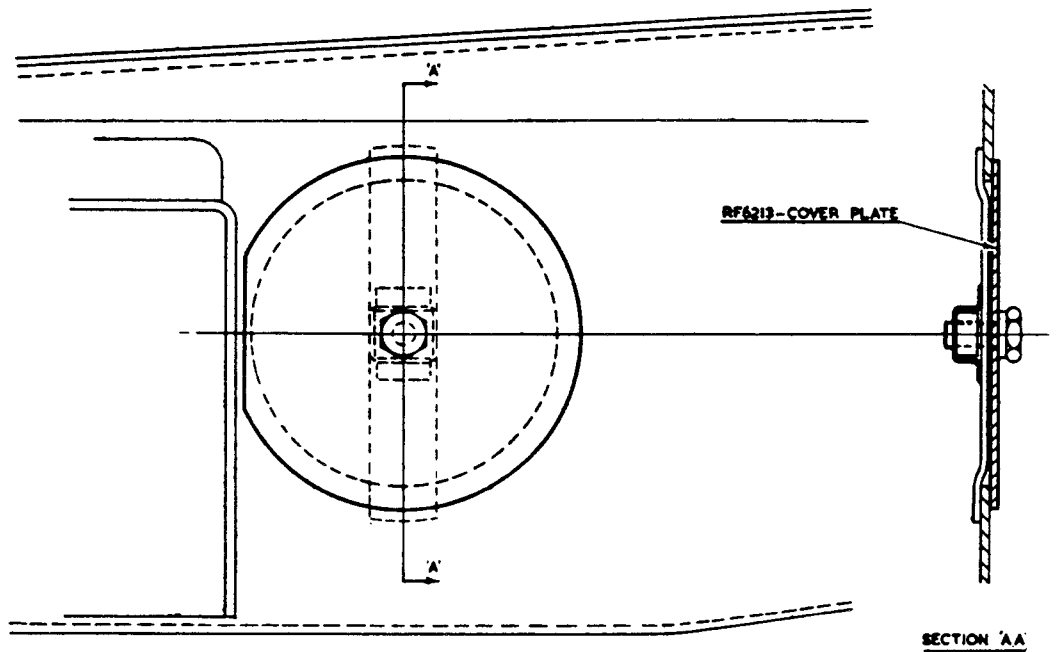

FIG. 2. METHOD OF FIXING COVER PLATE OVER HAND-HOLE.
2. Fit the hand-hole cover plate (RF-6213) as shown in Fig. 2.